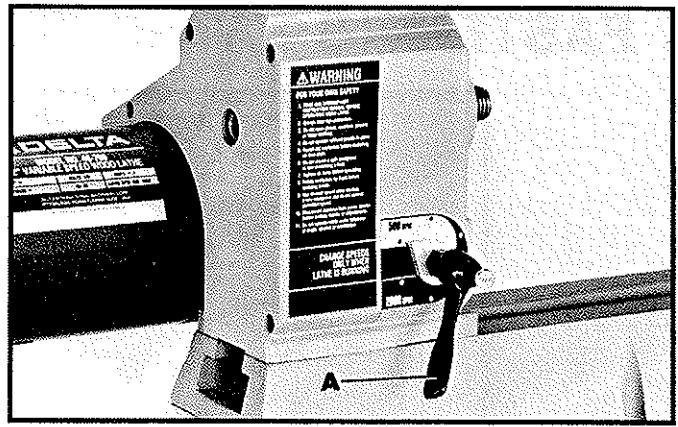

Fig. 17
Your 12" Wood Lathe is provided with variable rate spindle speeds from 500 to 2000 RPM. **IMPORTANT: CHANGE SPEEDS ONLY WHEN LATHE IS RUNNING.** To change speeds, rotate speed control lever (A) Fig. 17. Turning the lever (A) clockwise increases the speed and turning it counterclockwise decreases the speed. **NOTE:** Lever (A) is spring-loaded and can be repositioned by pulling out on the lever and repositioning it on the nut located underneath the lever.